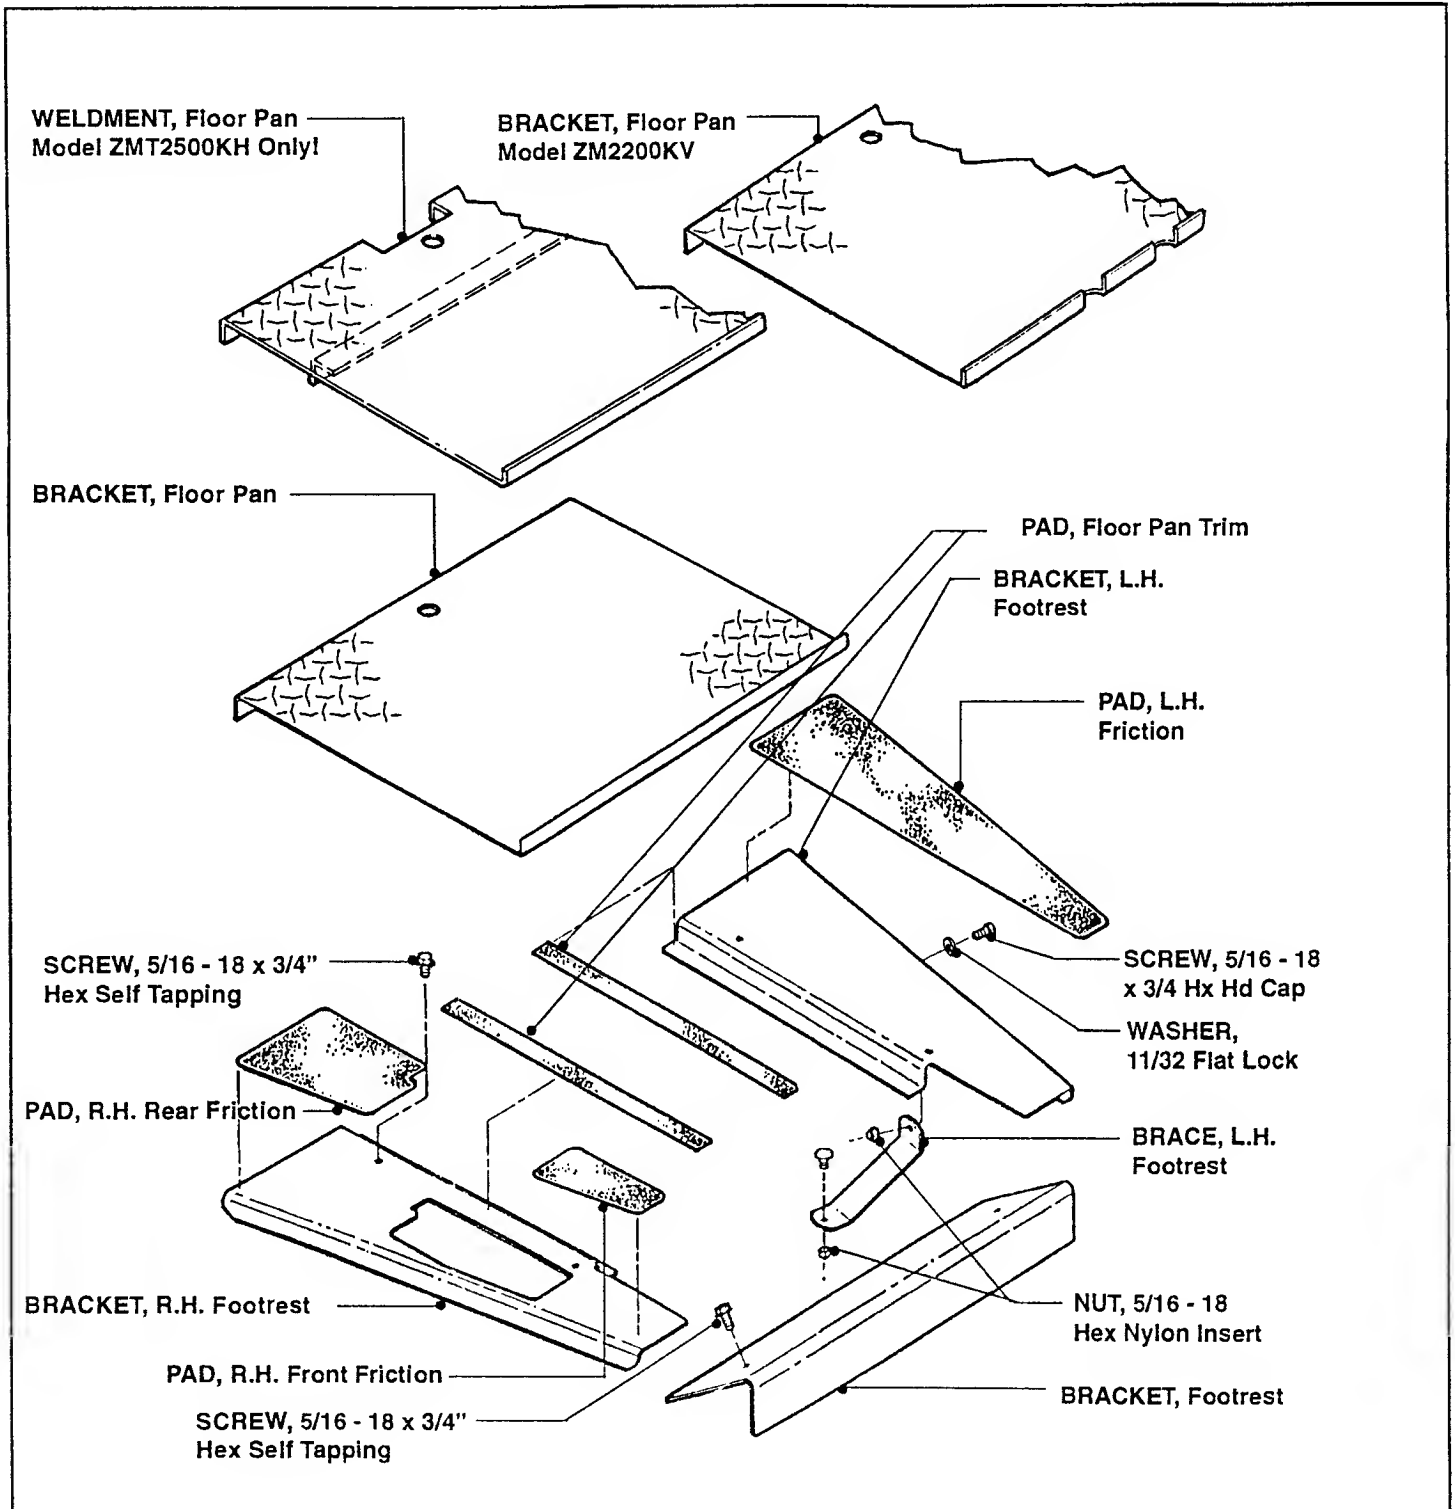

FIGURE 6.7
Components of the Footrest Assembly are shown in Figure 6.7 on Page 6.8.
2. Other Footrest components are attached to the Frame with various fasteners and may be removed and replaced as shown in Figure 6.7.
- g) Mark two (2) location points at the end of the Pad.
As shown below in Figure 6.7, there are three (3) different Floor Pans for the Mid Mount Z-Riders. Consult the appropriate Parts Manual when ordering a replacement Floor Pan.